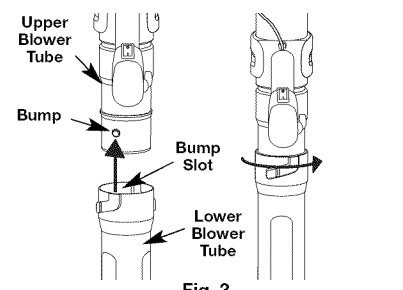

Fig. 3
1. Insert the bump on the upper blower tube into the bump slot on the lower blower tube (Fig. 3).
2. While holding the upper blower tube, twist the lower blower tube clockwise until it locks into place (Fig. 3).